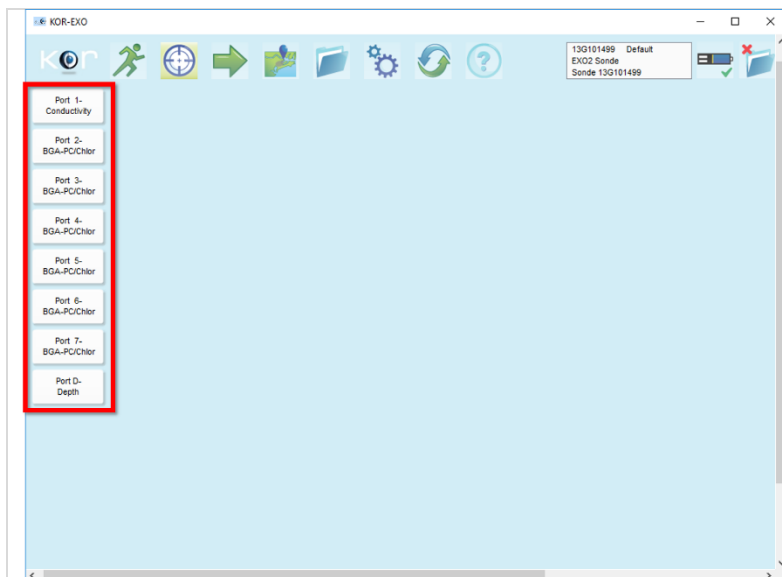

Figure 96. Calibration Menu Options: Sensor Probes
**STEP 10** | Select Under the Calibration section, it lists each sensor probe on the left of the screen (Figure 96).